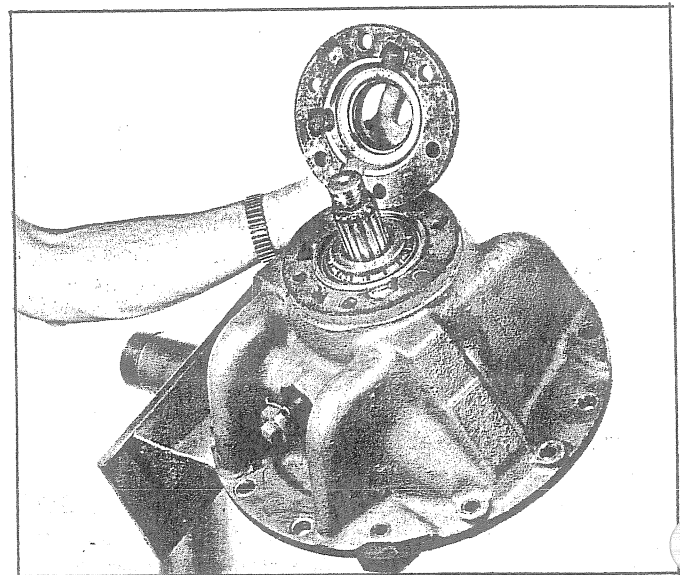

Fig. 61 - Installing Oil Seal and Retainer
9. Coat outside diameter of oil seal with Permatex No. 2 and press into seal retainer with lip of seal inward. Place oil seal retainer over pinion shaft and secure with retaining bolts. See Fig. 61. Tighten the five 9/16 in. bolts to 30-90 ft.-lbs. torque and the one 1/2 in. bolt to 55-60 ft.-lbs. torque.